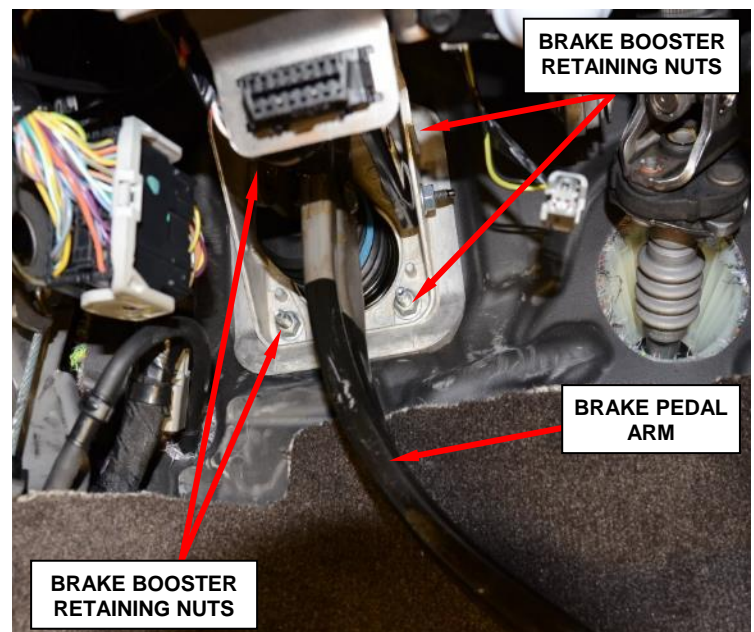

Figure 27 – Brake Booster Retaining Nuts
19. Remove and discard the four brake booster retaining nuts (Figure 27).
24. Install four new brake booster retaining nuts and tighten them to 20 N·m (15 ft. lbs.) (Figure 27).